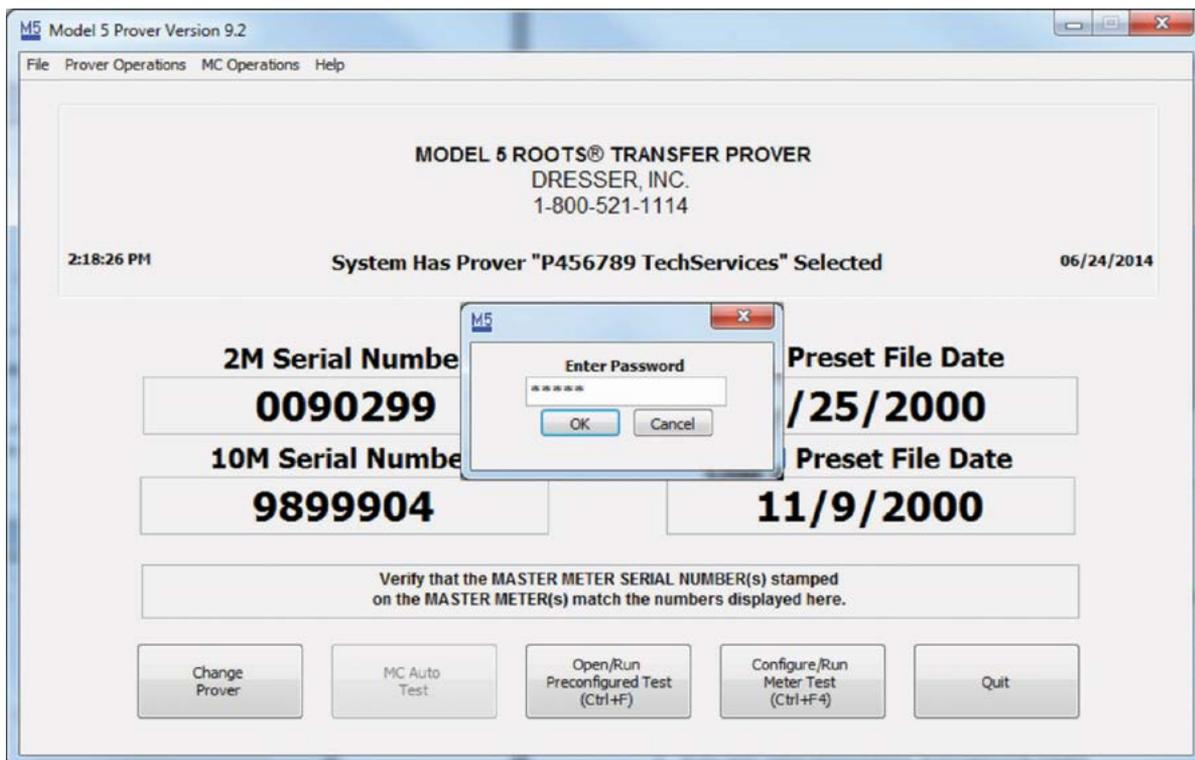

Figure 113: Password Dialogue Box
3. A small dialog box will appear. Enter the password "ROOTS" as shown in **Figure 113**.